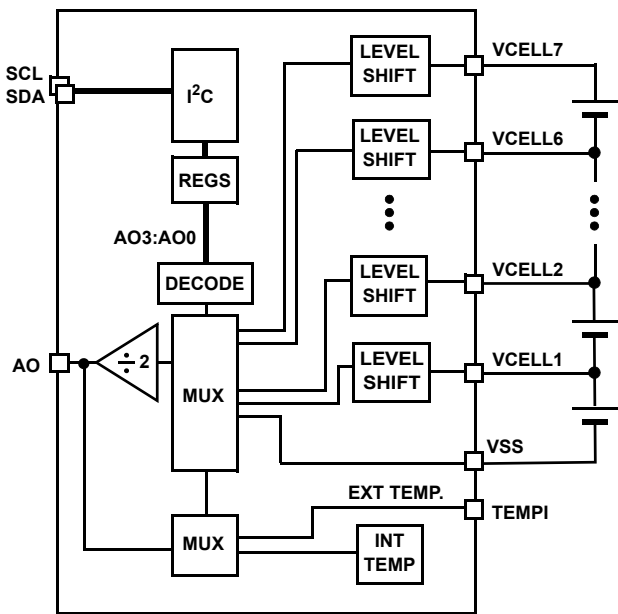

FIGURE 20. ANALOG OUTPUT MONITORING DIAGRAM
The ISL94208 devices can be used to externally monitor individual battery cell voltages and temperatures. Each quantity can be monitored at the analog output pin (AO). The desired voltage is selected using the I²C interface and the AO3:AO0 bits. See Figure 20 and Table 6 on page 17. Remember to reset the AO3:AO0 bits to '0000' after measurements to minimize unnecessary current draw from the cells.